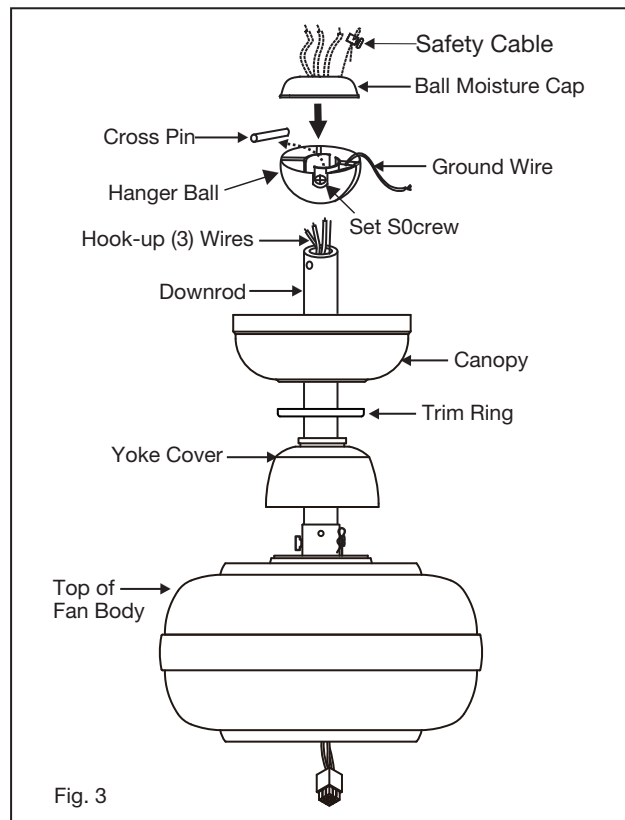

Fig. 3
- 6 Slip the yoke cover, trim ring and canopy onto the downrod. (Fig. 3)
- 8 Feed wires through holes in rubber ball moisture cap and slide cap down over top of ball. (Fig. 3)
- 1 Remove the existing wall plate and old switch from the wall outlet box. (Fig. 3)
A DOWNWARD airflow creates a cooling effect as shown in Figure 3. This allows you to set your air conditioner on a warmer setting without affecting your comfort.